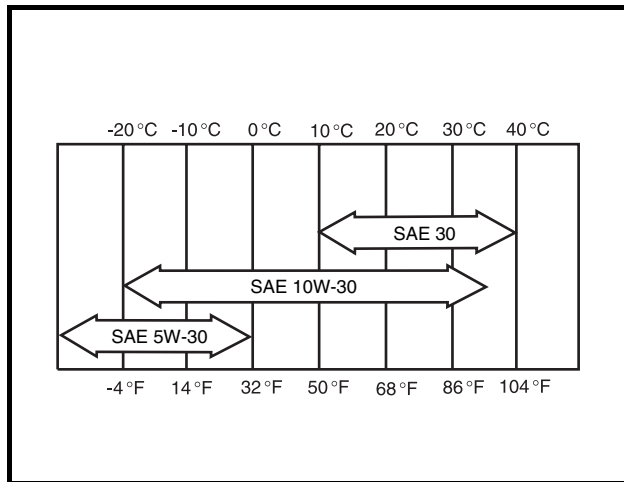
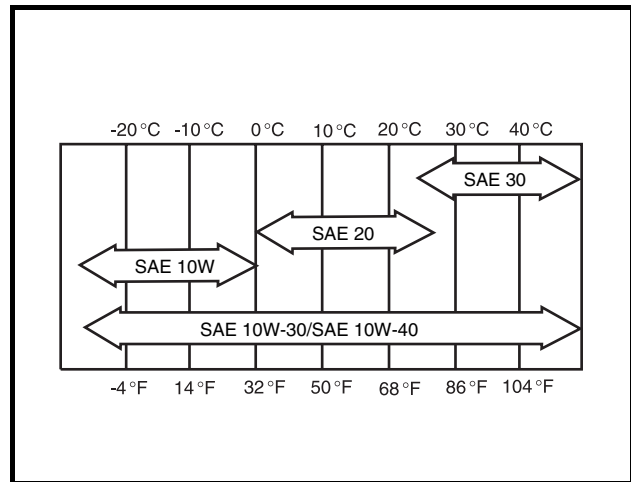

Figure 10-14 Oil Viscosity Chart – Gasoline
Figure 10-15 Oil Viscosity Chart – Diesel
1. Add engine oil; use a funnel or pour spout to direct the oil into the opening (**Figure 10-12, Page 10-10 or Figure 10-13, Page 10-10**). With filter change, the engine requires 1.8 qt. (1.7 L) of oil per change for gasoline vehicles and 3 qt. (2.8 L) for diesel vehicles. Refer to oil viscosity guidelines for selection of oil grade (**Figure 10-14, Page 10-11 or Figure 10-15, Page 10-11**).
Choose the viscosity according to the temperature as shown in the appropriate oil viscosity chart (**Figure 10-14, Page 10-11 or Figure 10-15, Page 10-11**). **See following NOTE.**